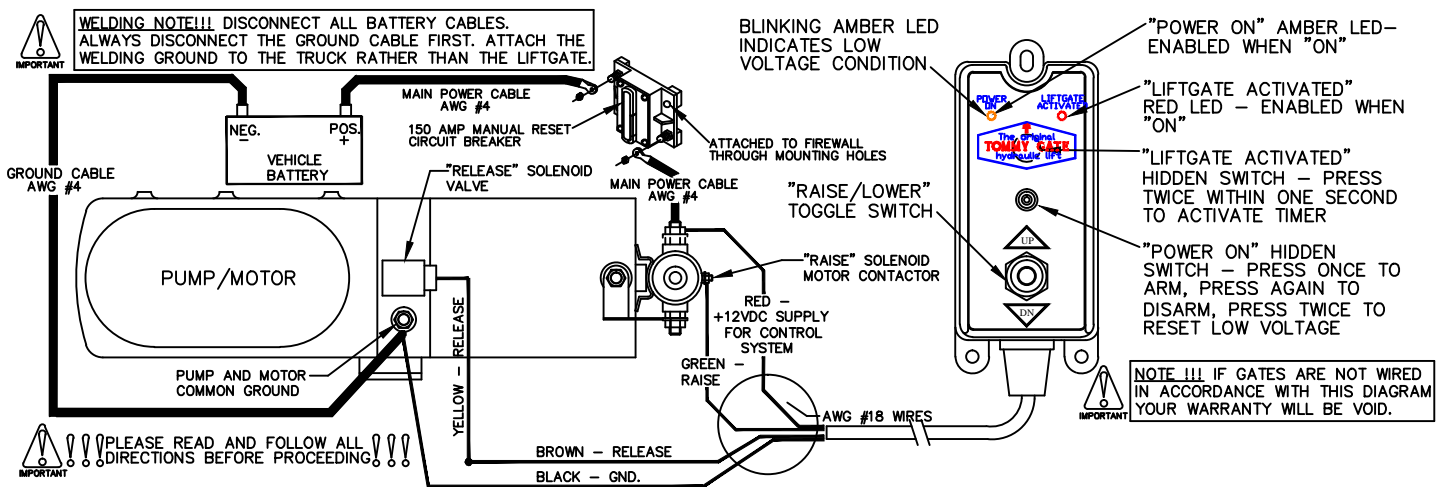

Figure 15: Wiring diagram.
2. **Push** the hidden "Power On" switch (Figure 15). The amber "Power On" LED will illuminate.
12. **Connect** the circuit breaker and battery as outlined in the *Tommy Gate Recommended Electrical Wiring Guidelines* and wiring diagram (Figure 15).